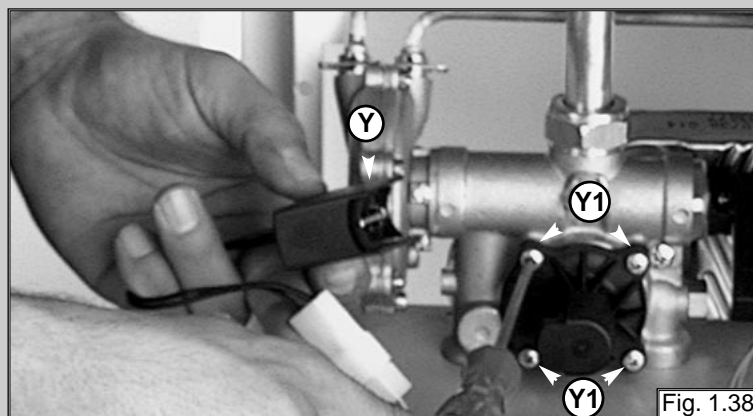

Fig. 1.38
2. Remove the screws "Y1" (see fig. 1.38);